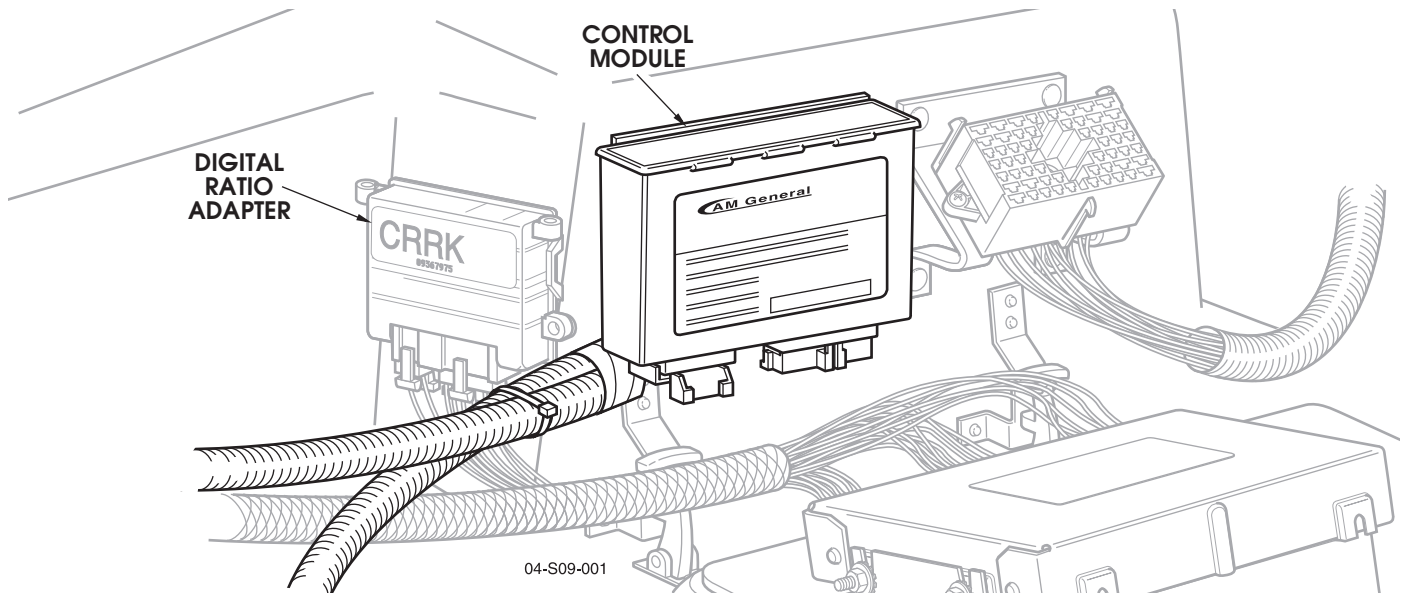

Figure 2: Control module and digital ratio adapter placement.
12. Using the supplied hook and loop, mount the digital ratio adapter to the left of the control module on the engine cover (See Figure 2).